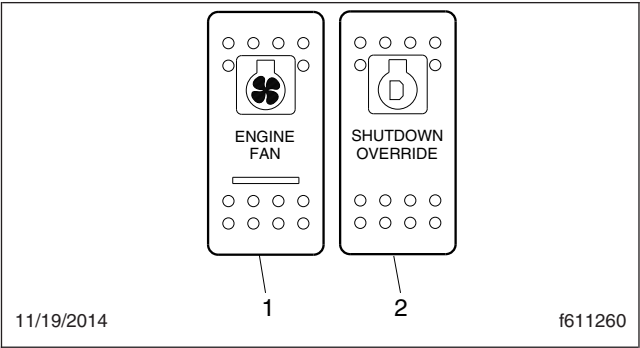

Fig. 4.12, Engine Switches
Press the upper half of the engine fan switch to override the automatic fan control and cause the engine fan to run continuously. See Fig. 4.12, item 1. This switch is intended for temporary use, or if the automatic fan control fails. Press the lower half of the switch to return to automatic fan control.
Some vehicles may have a shutdown override switch, which can be used to momentarily override the shutdown sequence. This switch resets the shutdown timer, restoring power to the level before the derate. The switch must be pressed again after five seconds to obtain a subsequent override. See Fig. 4.12, item 2.